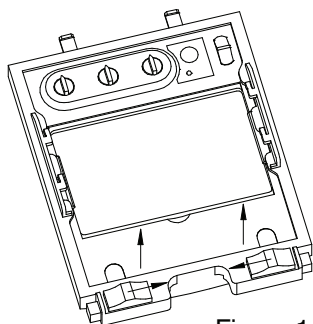
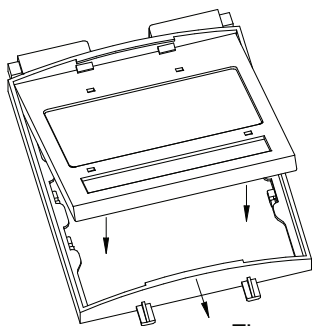

Figure 1
Figure 2
**Replacing Front Clear Cover Lens:** Replace the front cover lens if it is damaged. Remove ADF holder assembly per Figure 1. Remove front cover lens from helmet assembly. Carefully remove gasket from cover lens. Install new cover lens into gasket and assemble to helmet shell. Make sure to assemble cover lens and gasket into helmet shell the same way as it was removed.
**Change the Shade Cartridge:** Remove ADF holder assembly from helmet shell. See figure 1 for removal. Flex top end of the ADF holder to allow for ADF cartridge to be removed from frame. Install new ADF cartridge into frame per figure 2 below. Make sure that the ADF cartridge is inserted in ADF holder correctly as shown. Install ADF holder assembly into helmet shell.